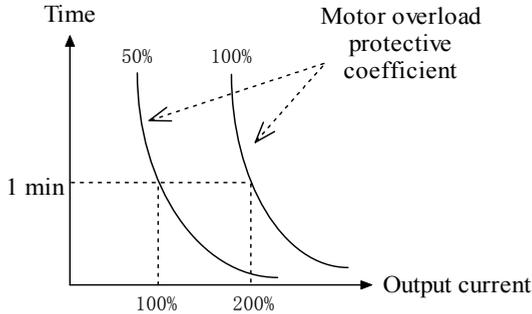

Fig. 5-13-1 Motor overload protection curve
- ◆ In order to apply effective overload protection to different kinds of motors, the Max output current of the ac drive should be adjusted as shown in Fig.5-13-1.